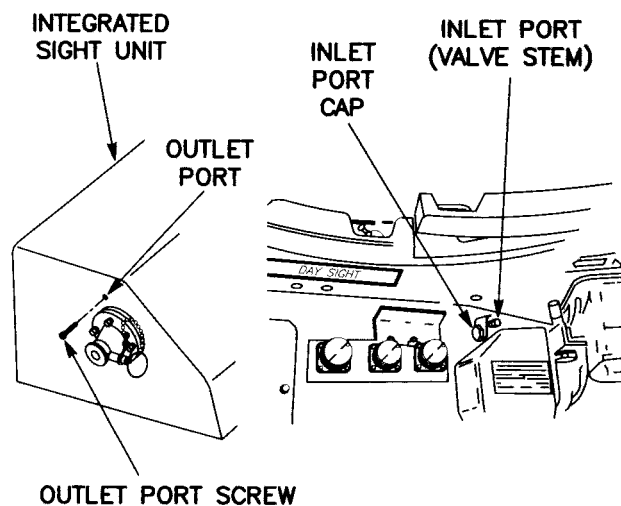

Figure 3-48 Integrated Sight Unit
(2) Integrated Sight Unit (figs. 3-48 and 3-49).